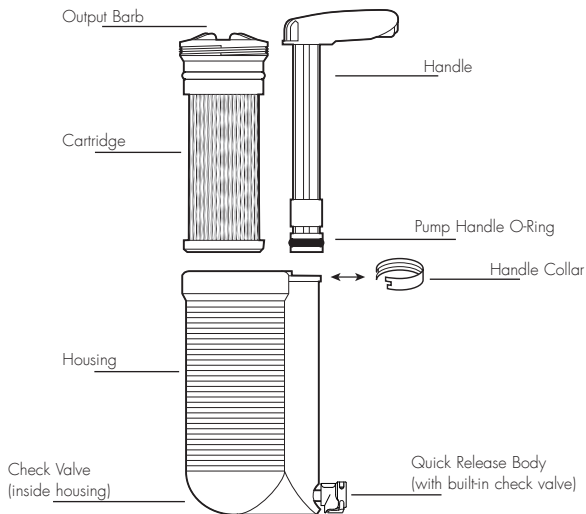
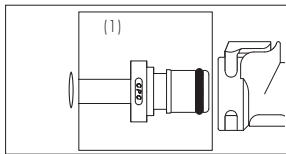

Figure 1-1
Figure 2-2
Your Katadyn Hiker Pro includes a connector (1) that allows the output hose to attach to the quick connect fitting built-in to many hydration bladders such as Nalgene, Jansport, etc. This convenient feature allows easy filling of hydration bladders. See illustration (Figure 2-2) for installation.
Remove the plastic cap from the output barb; retain for storage. Connect input hose (hose with prefilter) with quick connect insert to quick release body at base of pump housing. Connect output hose to output barb on top of cartridge. Connect the EasyFill Bottle Adaptor to the end of the output hose. (Figures 1-1, 1-2, 2-1) For use with hydration bladder, connect hydration connector to the end of the output hose. (Figure 2-2)
Lubricate pump handle o-ring. Silicone lubricant is provided with your new unit. Remove handle collar and handle. (Figure 1-1) Clean excess build-up from black rubber o-ring on bottom of handle. Place a small amount of silicone lubricant all the way around the o-ring. Re-assemble.
5. Re-attach output hose to cartridge output barb. (Figure 1-1)